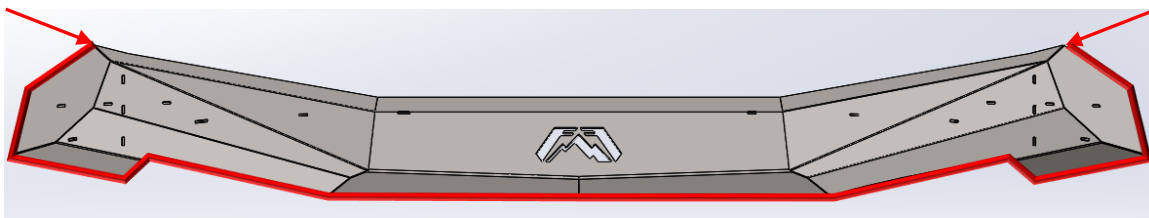

Fig 11
- f. Install the edge seal with adhesive onto the leading edge of the cowl as shown in **Fig 11** by the bold line between the arrows.